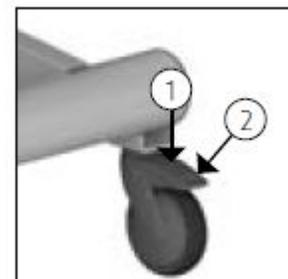

Figure 2 Wheel blocking.
- Apply the brake by pushing the blue lip (1) on the wheel downwards (See figure 2).
- Release the brake by tapping the upper side of the lip (2) to move it upwards. (See figure 2).